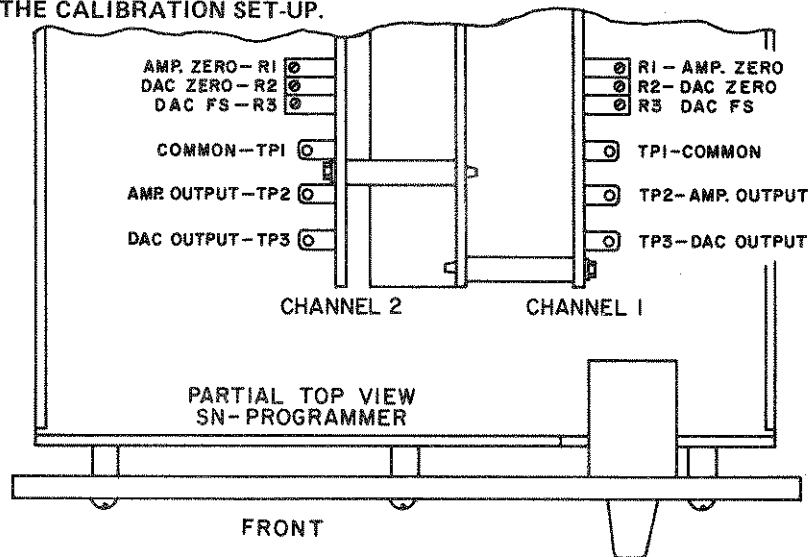
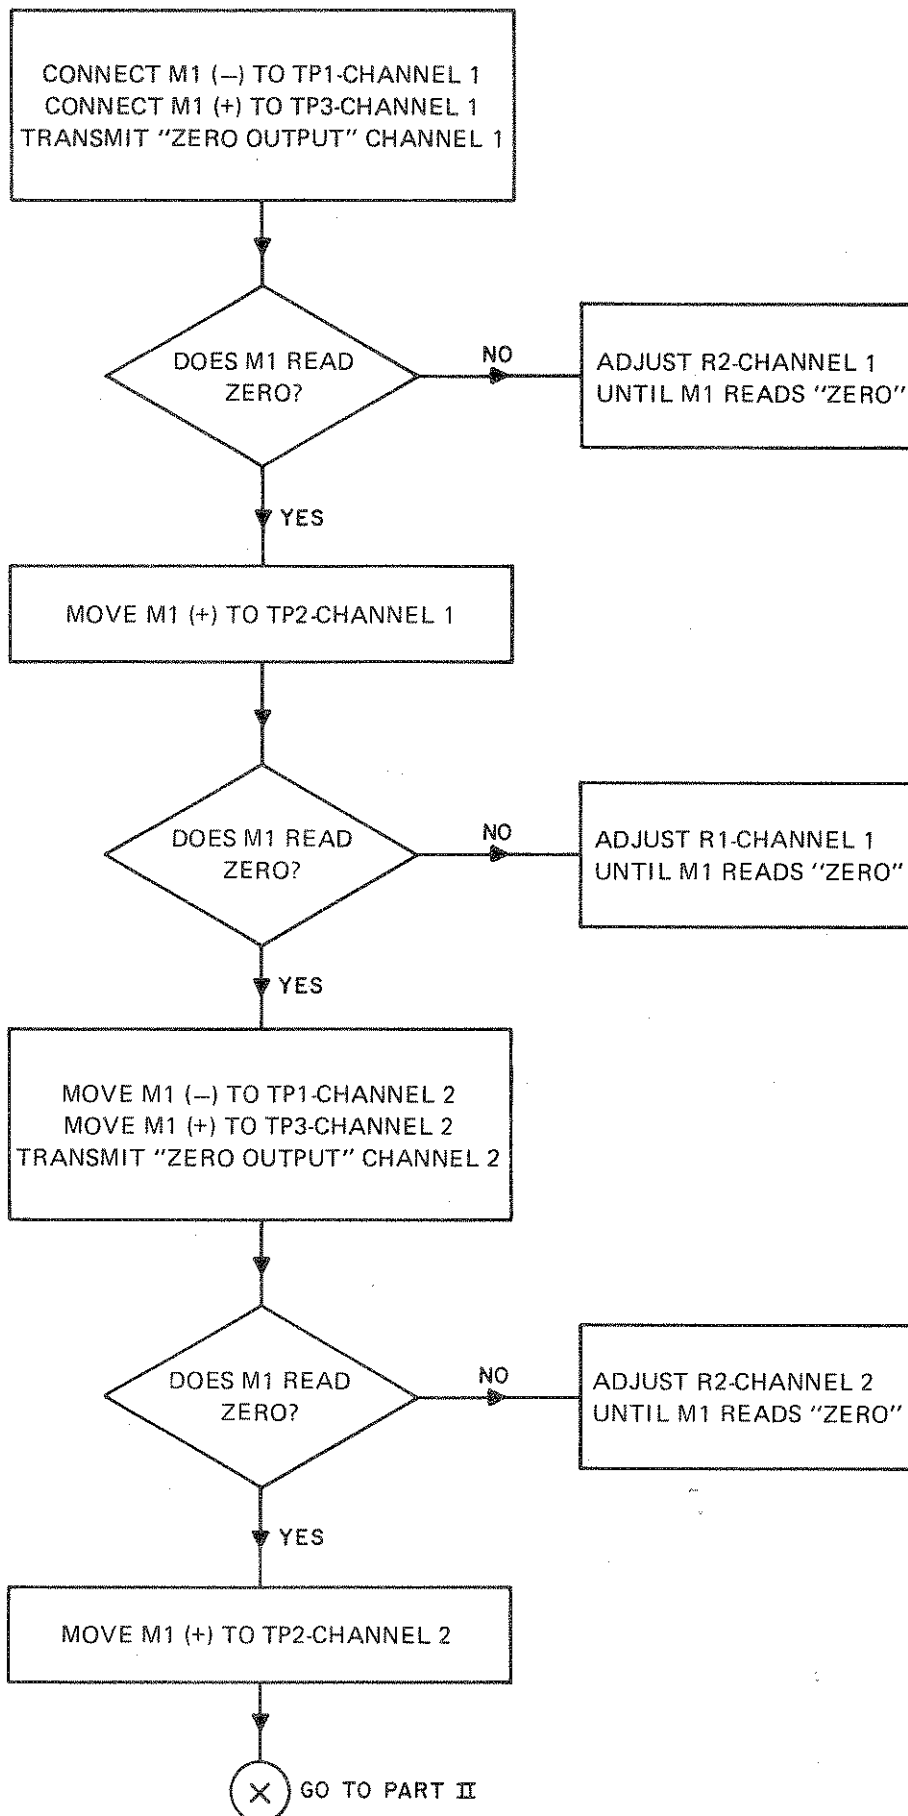
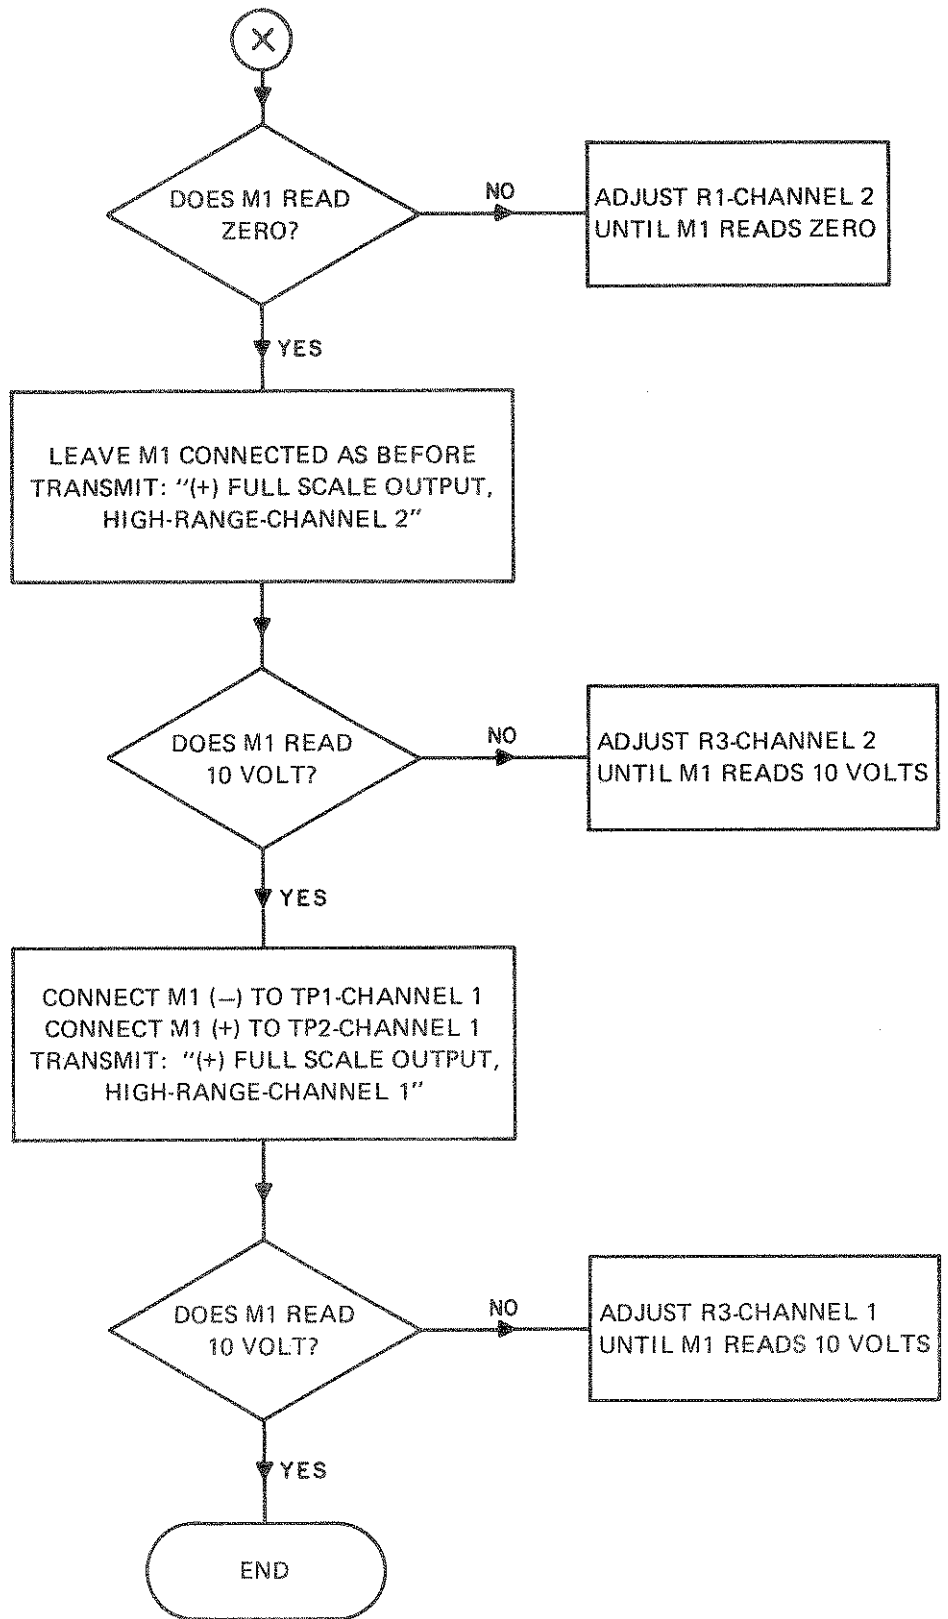

FIG. 3-8 LOCATION OF TEST POINTS AND CALIBRATION CONTROLS, SN 488 AND SN 500 DIGITAL PROGRAMMERS
FIG. 3-9 CALIBRATION FLOW-CHART, PART I
FIG. 3-10 CALIBRATION FLOW-CHART, PART II
- B) Refer to Fig. 3-8 for the location of TEST POINTS and CALIBRATION CONTROLS. Proceed as directed on the FLOW-CHART, Fig. 3-9 and Fig. 3-10.